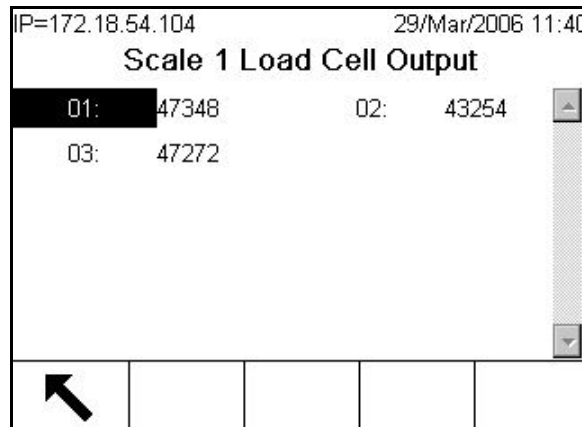

Figure 3-20: Load Cell Output Screen
- **Load Cell Output**—Displays the current load cell output (active weight) for the scale (Figure 3-20). The numbers in the scale below feature load cell addresses for each output. For digital load cells, individual cell counts will be displayed. Individual cell counts are the raw output of the load cells, which the indicator translates into weight by calculation, using information it acquires through the calibration process.